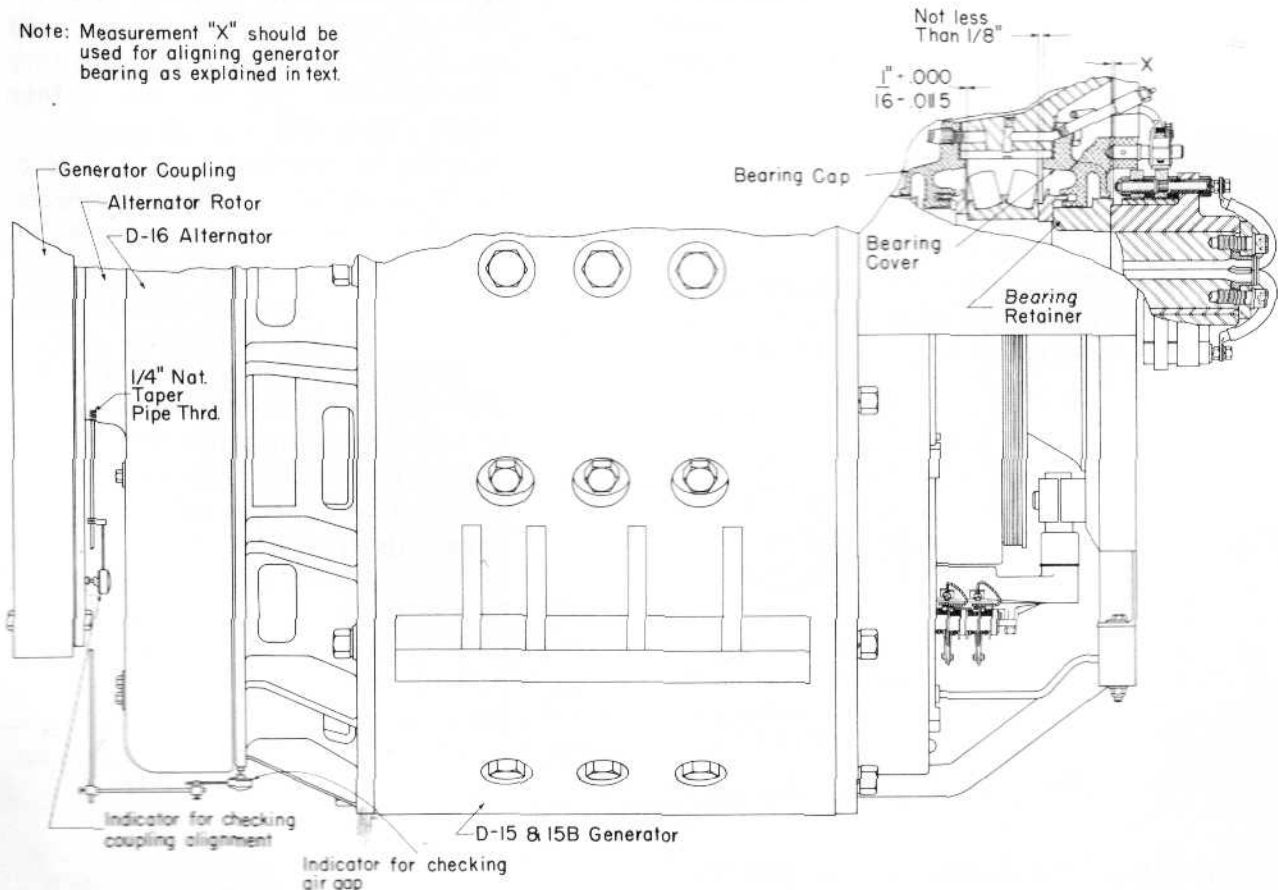

Fig. 25 - Generator Alignment Information D15 And D15B Generators
- b. The total clearance of $3/16''$ is determined at original assembly by moving the armature shaft as far as possible toward the coupling disc end of the generator. The shaft retainer is then stamped with chisel marks at four quarter locations where the bearing cover meets the retainer. A reference measurement "x," Fig. 25, is then made from the chisel marks or bearing to the outer end face of the shaft retainer. This reference measurement or total end play is stamped in $1/2''$ numbers on the end bell beneath a sheet metal cover. To this reference measurement "x" is added the $1/16'' + .000'' - 1/64''$ end clearance. The generator stator must then be positioned to obtain this total measurement so that the dimension "x" equals approximately $3/16'' + (1/16'' + .000'' - 1/64'')$ from the machined face of the bearing cover to the end face of the shaft retainer. This will also equal $1/16'' + .000'' - 1/64''$ between the chisel marks and the machined face of the bearing cover.
- b. Two dial type indicators are used to check alignment. The plunger of one indicator contacts the back of the generator coupling disc opposite the serration at the bolt circle. The plunger of the second indicator rides on the outside machined diameter of the alternator housing as shown in Fig. 25, to indicate air gap. Both indicators revolve together. The indicators are mounted on supports attached to a rod screwed into a tapped hole in the coupling adapter.